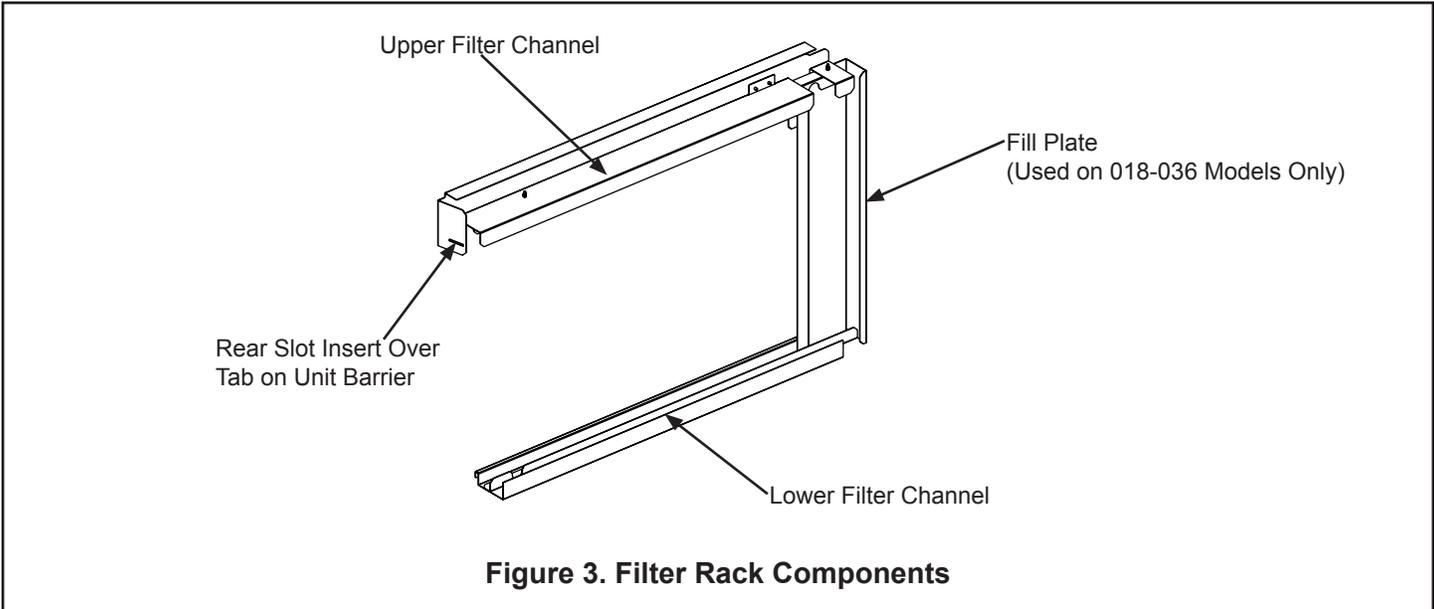

Figure 3. Filter Rack Components
- c. Install the right side of the upper filter bracket, aligning the slots of the filter frame to the right coil tube sheet engagement holes (where the screw was removed in Step a.). See Figure 3.